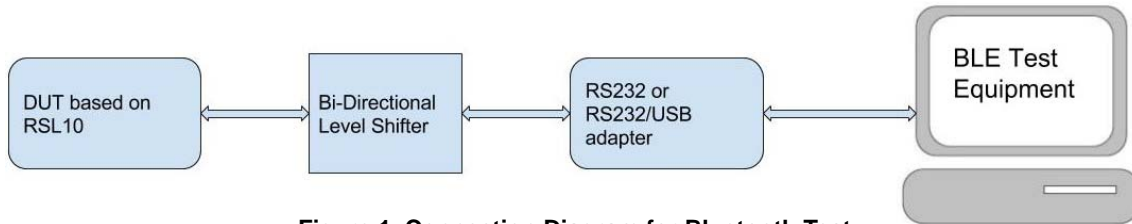

Figure 1. Connection Diagram for Bluetooth Test
In this configuration, you can change to the other DIO. If headers are provided, you will need to connect two jumper wires onto the two DIO pads, and connect to a bi-directional level shifter. You will need this because RSL10's logic level is between 1.1 and 3.3 V depending on VDDO voltage level, which is not directly compatible with the RS232 cable. This set-up is shown in Figure 1.
3. Connect the DUT, level shifter, RS232 USB adapter, and Bluetooth low energy test equipment as shown in Figure 1.